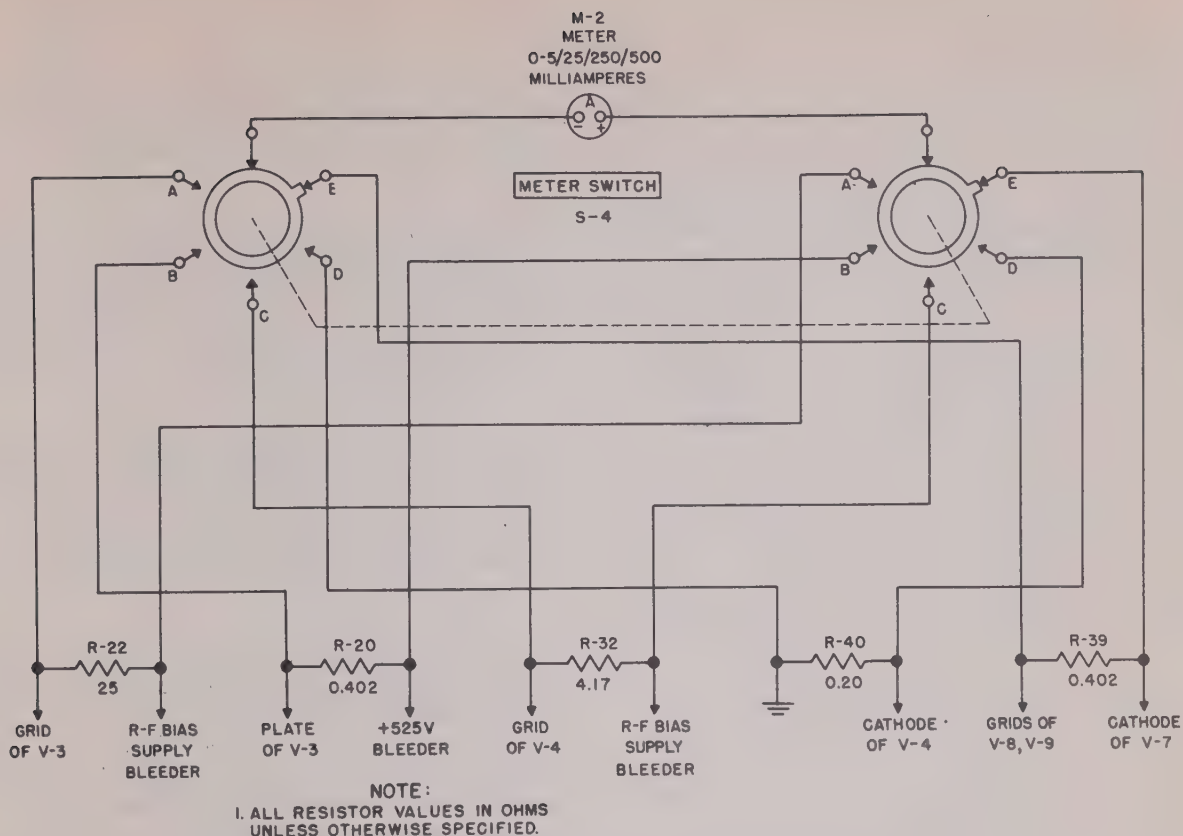

Figure 52. Radio Transmitter Model 96D, simplified schematic diagram of multiscale meter circuit
(1) Multiscale Ammeter (fig. 52). Multiscale ammeter M-2 is connected into five different circuits, one at a time, by the METER SWITCH, S-4. S-4 is a six-position, two-pole, wafer-
type switch. Each position of the switch is labeled; reading clockwise, the positions are as follows: OFF, 2ND AMP GRID, 2ND AMP PLATE, 3RD AMP GRID, 3RD AMP TOTAL, and FINAL AMP GRID. Figure 52 is a simplified schematic diagram of the circuits involved in the metering circuits. For ease in understanding, the positions have been labeled A, B, C, D, and E. When the switch contacts are at A-A, the meter is connected across precision resistor R-22. R-22 is in the grid circuit of the second r-f amplifier; thus, M-2 measures the current flow in R-22, which is the grid current flow for V-3. In position B-B, Meter M-2 is across precision resistor R-20 and measures the current flow which is the plate current of V-3, the second r-f amplifier. In position C-C, M-2 is across precision resistor R-32. R-32 is in the grid circuit of V-4, the third r-f amplifier; thus, M-2 measures the current flow through R-32, which is the
grid current of V-4. When S-4 is in position D-D, M-2 is connected across precision resistor R-40, which is in the third amplifier cathode circuit. Thus, M-2 measures the current flow through R-40, which is the third amplifier total current. In figure 52, S-4 is shown in position E-E. Meter M-2 is connected across precision resistor R-39, which is in the grid circuit of the final amplifier tubes; thus, M-2 measures the grid current of the final amplifier stage.